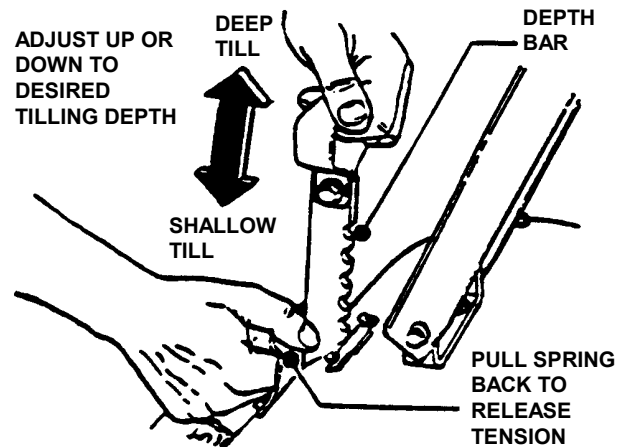

FIGURE 7
2.6.1. FORWARD/REVERSE: To transport the Tiller to a new tilling site using its own power, raise the tines to clear lawn and paved surfaces to prevent gouging. Release the WHEEL and TINE CONTROL BAIL and lift the rear of the Tiller to take the weight off the DEPTH BAR (see Figure 7), then push the DEPTH BAR downward into notch setting that allows the tines to clear the ground surface. Place the WHEEL and TINE SHIFT LEVER in FWD or REV. Pull the WHEEL and TINE CONTROL BAIL back against the handlebar to engage the wheel drive and transport the unit.
STEP 2: Set DEPTH BAR to desired position. Highest position is deepest depth. See Figure 7.